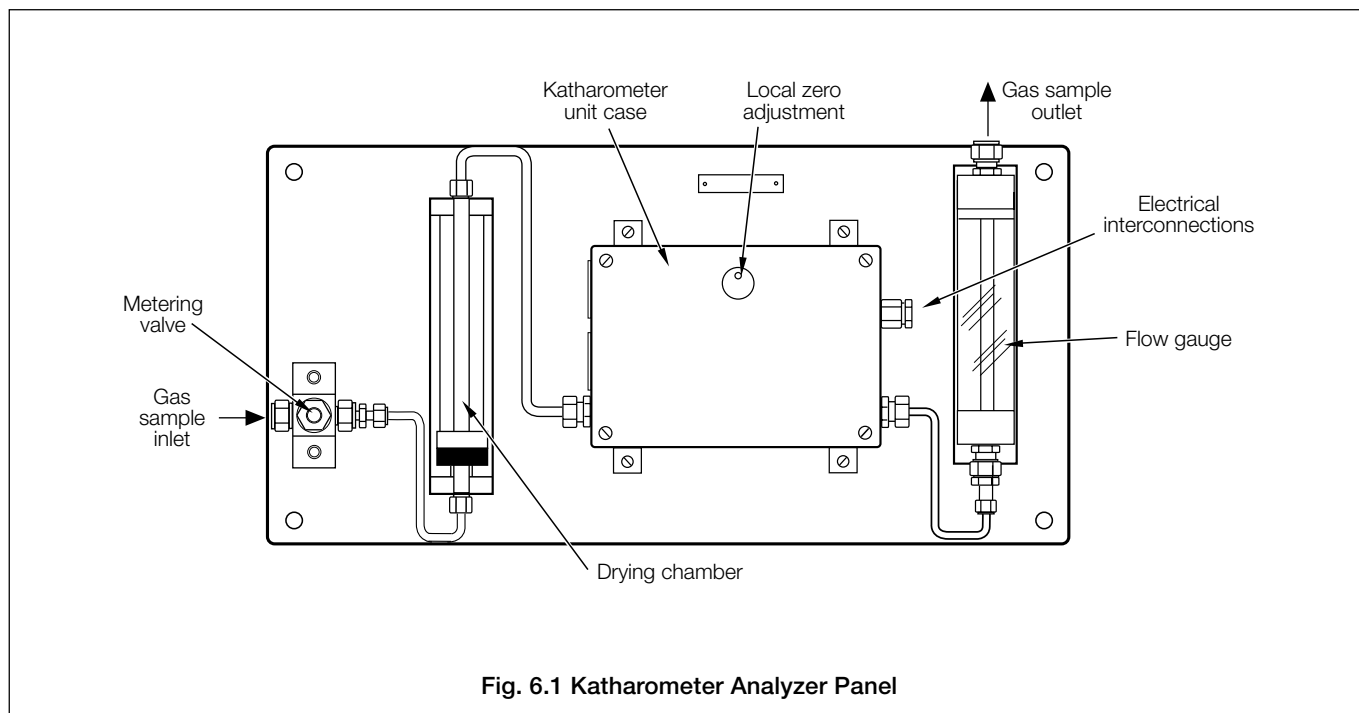

Fig. 6.1 Katharometer Analyzer Panel
6.1 Katharometer Analyzer Panel – Filling the Drying Chamber – Fig. 6.1